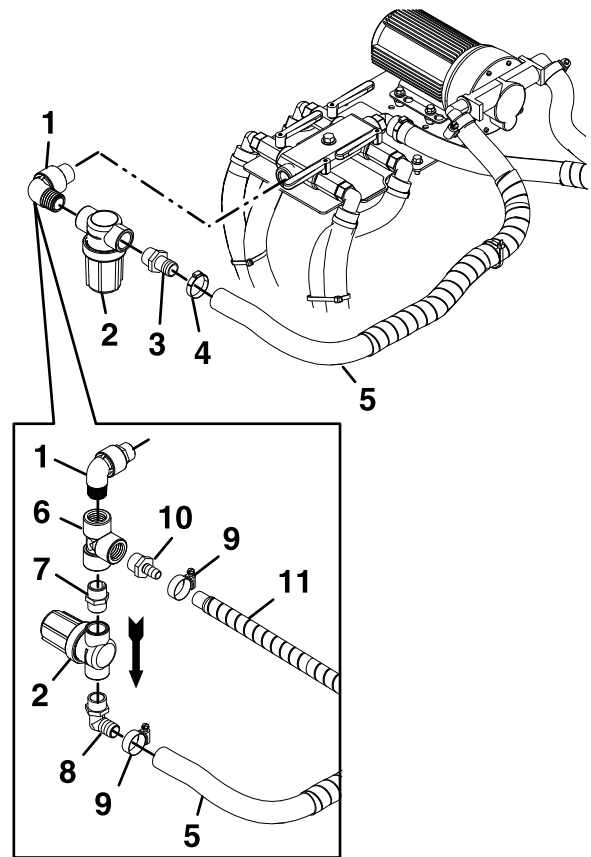

**Figure 3**
3. Install the tank assembly to the frame using four 3/8–16 x 1 inch carriage bolts and four 3/8 inch nyloc flanged nuts as shown in Figure 3.